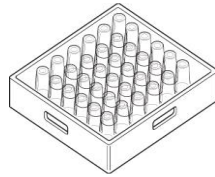

Fig.18
- 2- Load glasses and bowls in upside down position. (Fig.18)